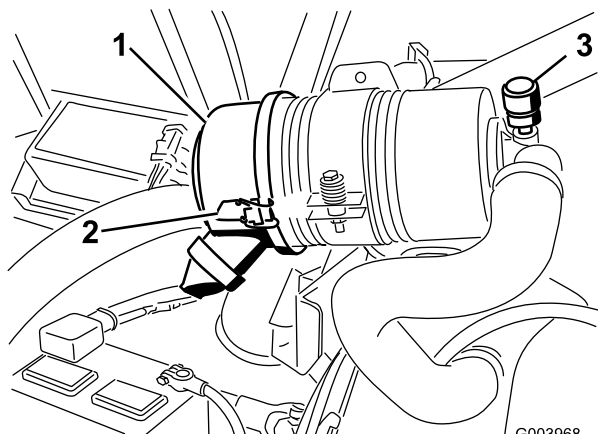

Figure 61
Service the air cleaner filter only when the service indicator (Figure 61) requires it. Changing the air filter before it is necessary only increases the chance of dirt entering the engine when the filter is removed.
1. Release the latches securing the air cleaner cover to the air cleaner body (Figure 61).